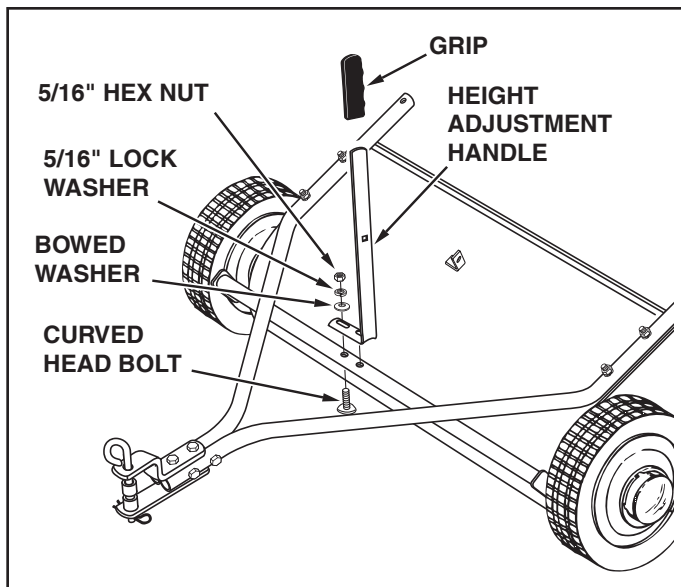

FIGURE 6
- Assemble the height adjustment handle to the height adjustment tube as shown in figure six. Use two curved head bolts, bowed washers, 5/16" lock washers and 5/16" hex nuts. **Do not tighten yet.** See figure 6.
- Assemble the grip onto the height adjustment handle. See figure 6.